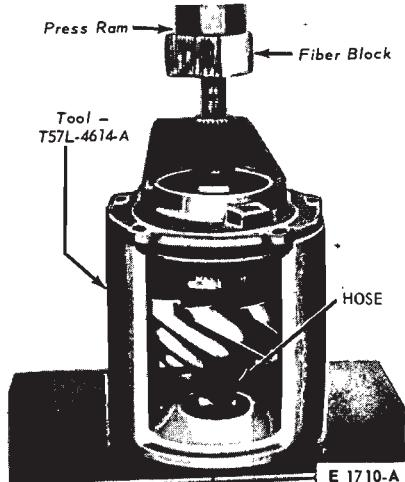

FIG. 26—Removing Pinion Front Bearing
5. Place a protective sleeve (hose) on the pinion pilot bearing surface. Press the pinion shaft out of the pinion front bearing cone with the tool shown in Fig. 26.